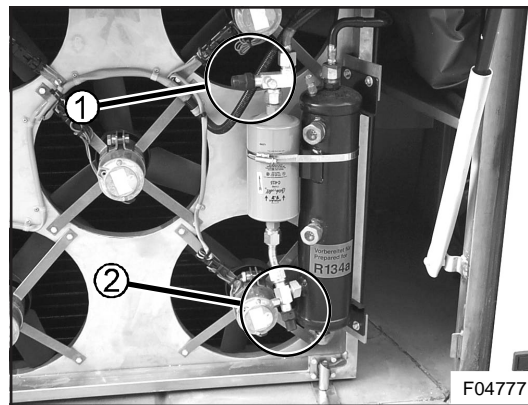

Figure 6: Service valves (1,2) at both sides of the filter/drier
1. Front-seat both service valves (1 and 2, Figure 6) by turning clockwise to fully closed position.
4. Back-seat both service valves (1 and 2, Figure 6) by turning counterclockwise to full open position.